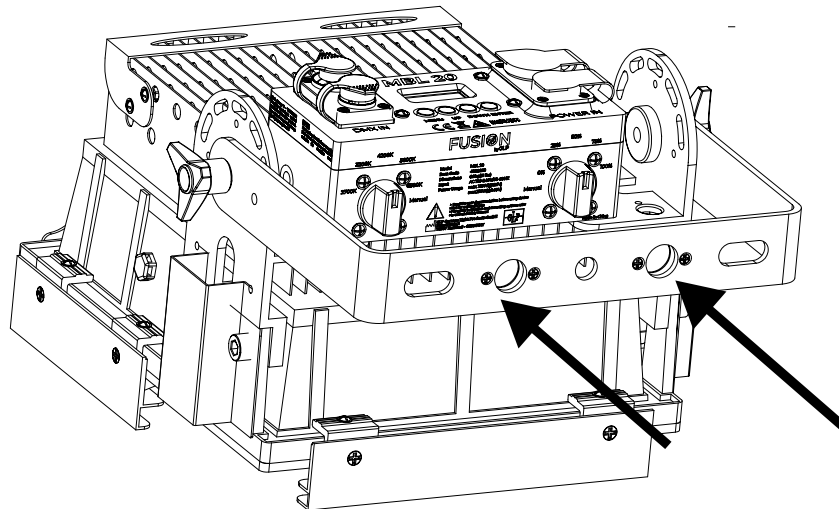

Figure 3. Omega bracket fasteners
2. Line up the fasteners of the Omega bracket with the holes in the mounting bracket of the MBL20 as shown in Figure 3.